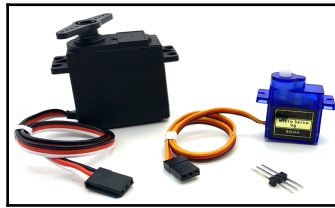

Figure 10.1 – Servos
Pictured in *Figure 10.1* are a full-size hobby-style servo, a micro servo, and a set of header pins, which are useful to help connect a servo to a breadboard, which we will need to do later in this section as we build our circuit:
3. Connect the servo into the breadboard. As mentioned previously and shown in *Figure 10.1*, you will need a set of header pins (or alternatively, male-to-male jumper cables) to connect your servo to your breadboard.